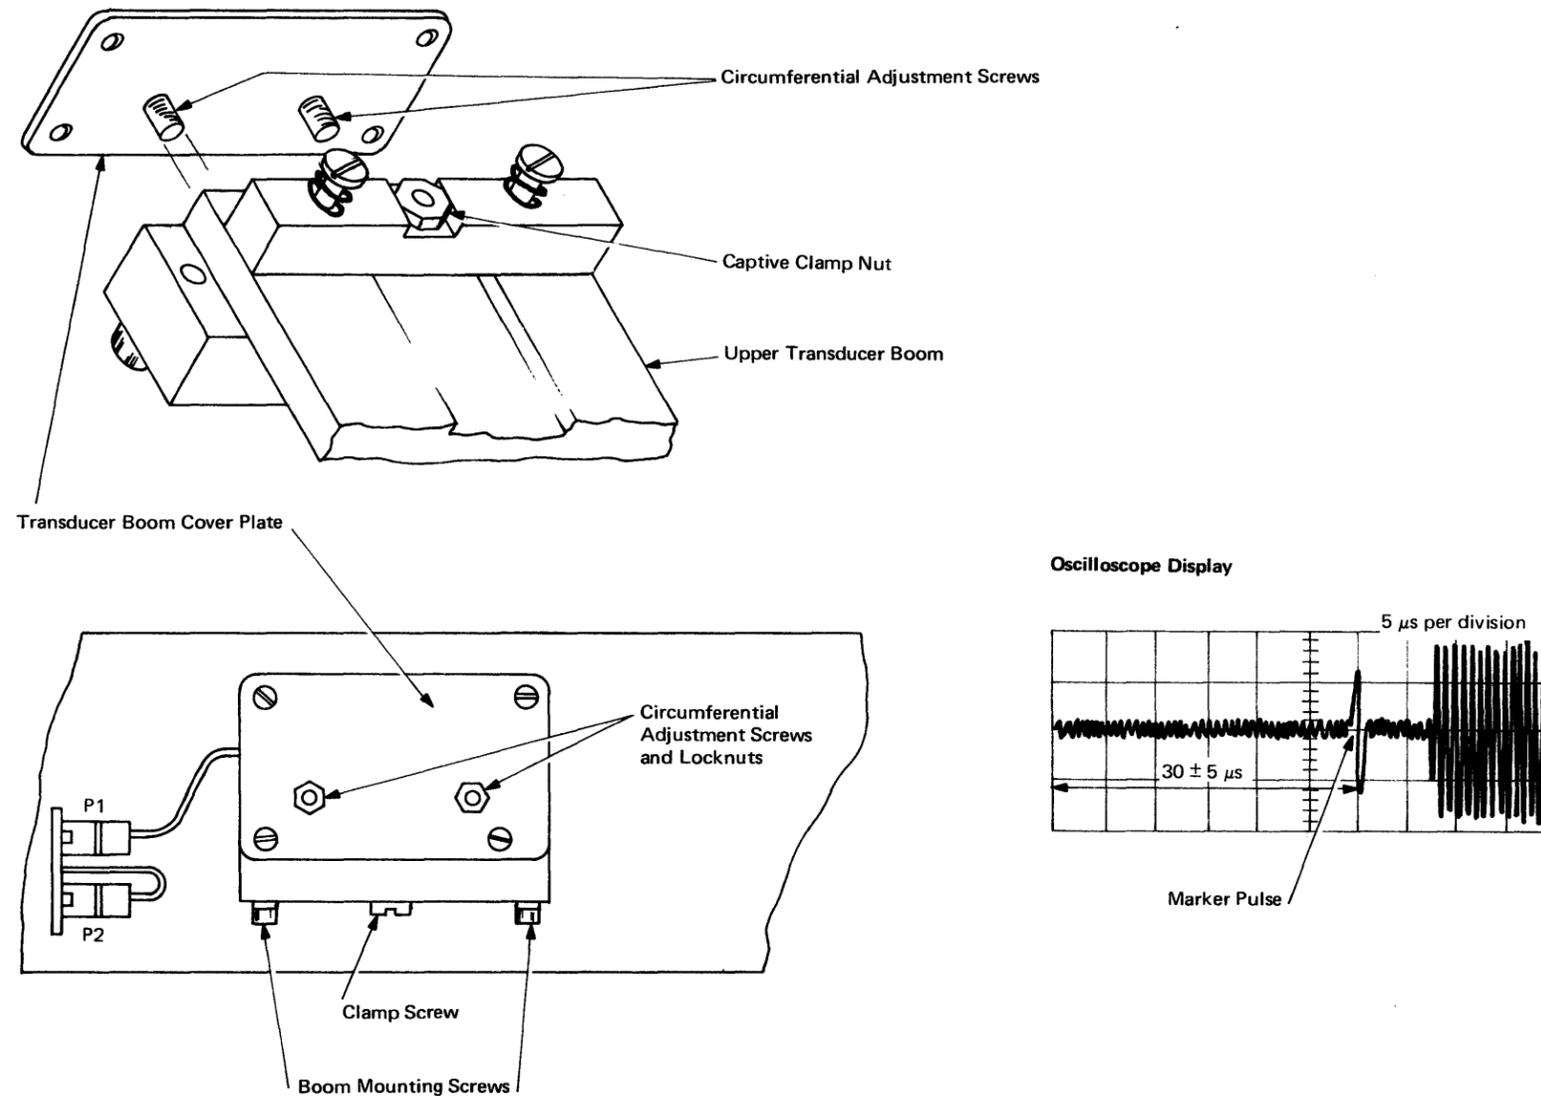

Figure 2-18. Upper Index Transducer – Circumferential Adjustment [07543]
6. Loosen locknuts of circumferential adjustment screws and turn the screws in until they touch end of upper transducer boom (Figure 2-18).
8. The oscilloscope display should resemble that shown in Figure 2-18; the marker pulse, which precedes a train of pulses by  $10 \mu s$ , should occur  $30 \mu s \pm 5$  from the start of the trace. To obtain this condition, back off one circumferential adjustment screw and tighten other screw so that boom is pivoted about the clamp screw. (If the right-hand screw is backed off and the left-hand screw is tightened, the marker pulse is moved towards the start of the trace, that is, the delay time is shortened.)